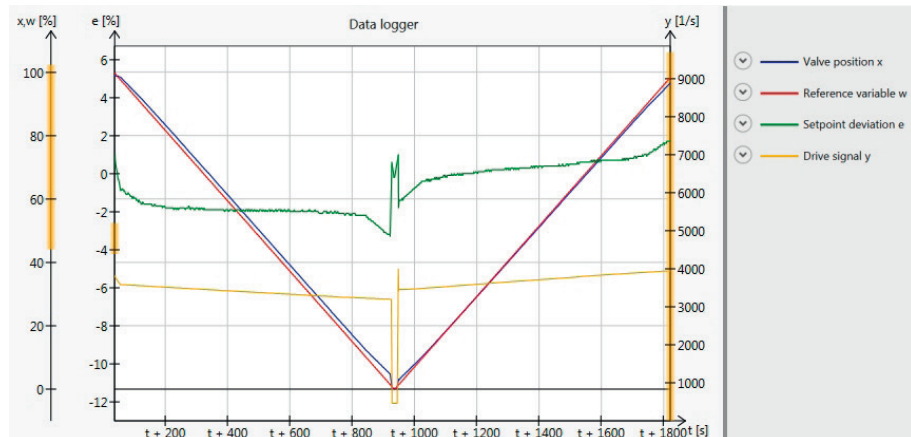

Fig. 21: Full stroke test to determine the ramp times for the partial stroke test
- 'Tolerance limit of step response' = 2.0 % (WE)
- 'Activation of the ramp function' = Yes (WE)
5. Analyze the logged data: If the valve position follows the set point closely, the adjusted ramp times can be used for the partial stroke test. If this is not the case, repeat the full stroke test with different ramp times until the valve position follows the set point (Fig. 21).